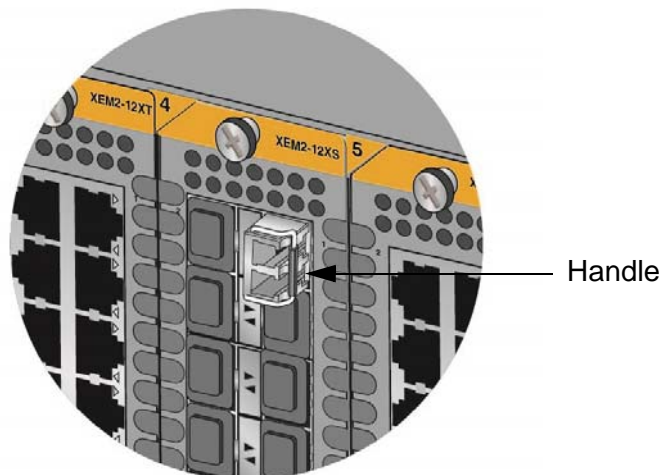

Figure 87. Positioning the SFP or SFP+ Handle in the Upright Position
4. Verify the position of the handle on the transceiver. If the transceiver is in an odd numbered slot, the handle should be towards the right, as shown in Figure 87. If the transceiver is in an even numbered slot, the handle should be towards the left.